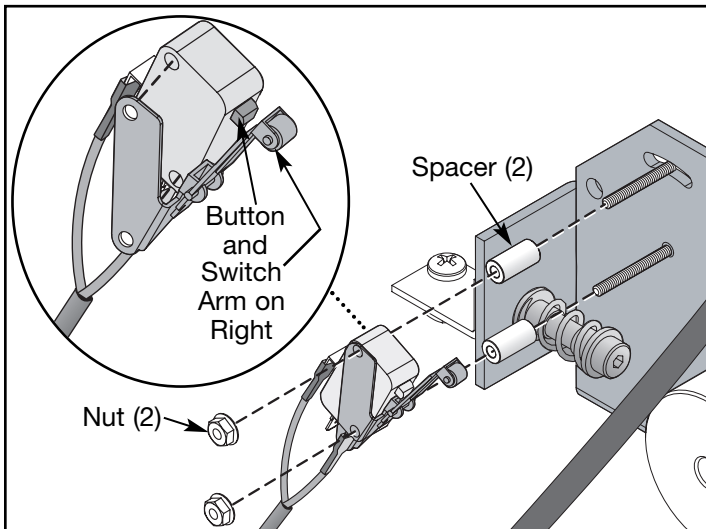

Figure 6
- B. Orient the switch arm and button to the right. See Figure 6.
- C. Place the two spacers, switch and switch arm on the two screws and loosely secure them with the two nuts. See Figure 6. **NOTE:** The switch should be loose enough to pivot easily until step 9C.